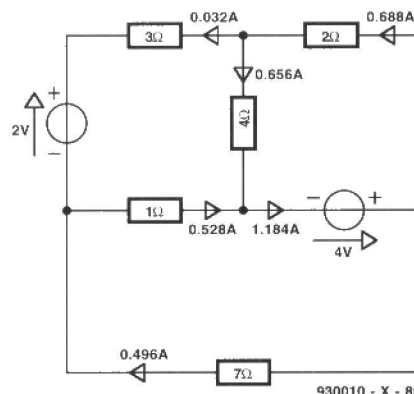

Fig. 85.
**Figure 85** shows the currents in each branch of the network, combining the currents for two meshes where an element is part of two meshes. We use Eq. 65 to calculate the power being dissipated in each resistor: